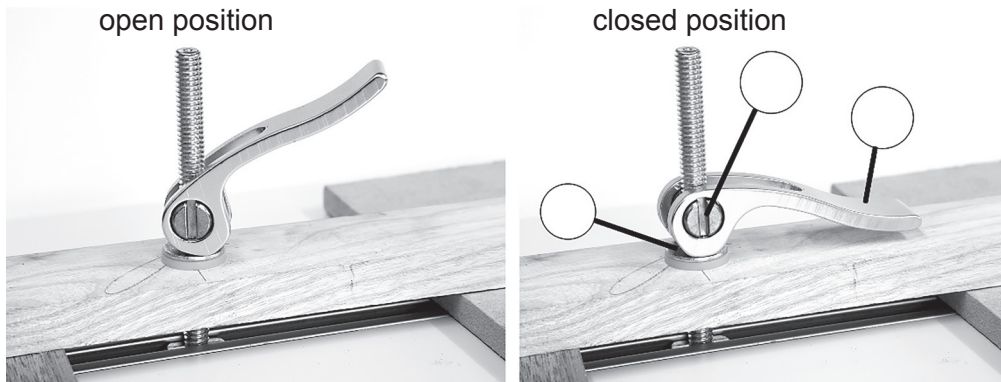

Fig. 10.1
- 10 (a) Fig. 10.1 shows details of a cam operated clamp that is locked in place by a lever.